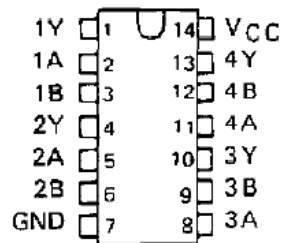

Figure 6
*Flip-Flop:* The 74LS02 has 4 dual input NAND gates, see figure 6. Confirm that the using two of these gates in this circuit will result in an SR Flip-flop. Do this by creating a truth table with pins 2 and 6 as the inputs and 1 and 4 as the outputs.